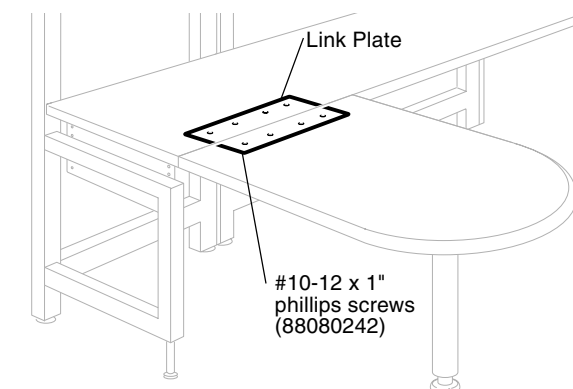

Figure 4
8. Attach each Link Plate with twelve (12) #10-12 x 1" phillips screws provided. (Figure 4)